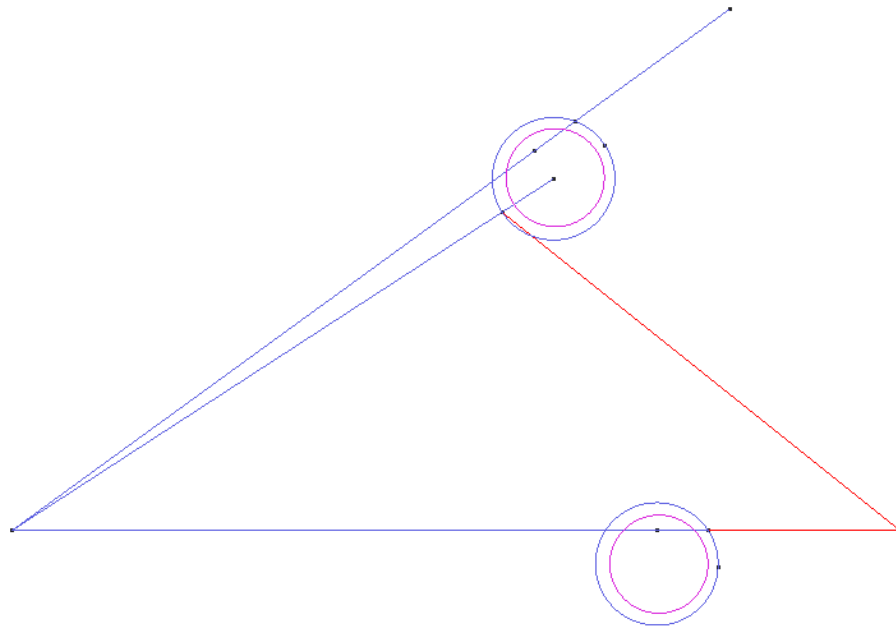

Figure 13. The line segments to be selected
- 3 . Now select the two line segments shown in Figure 13. Then press **ESC** to indicate that the process of creating the arcs is finished.